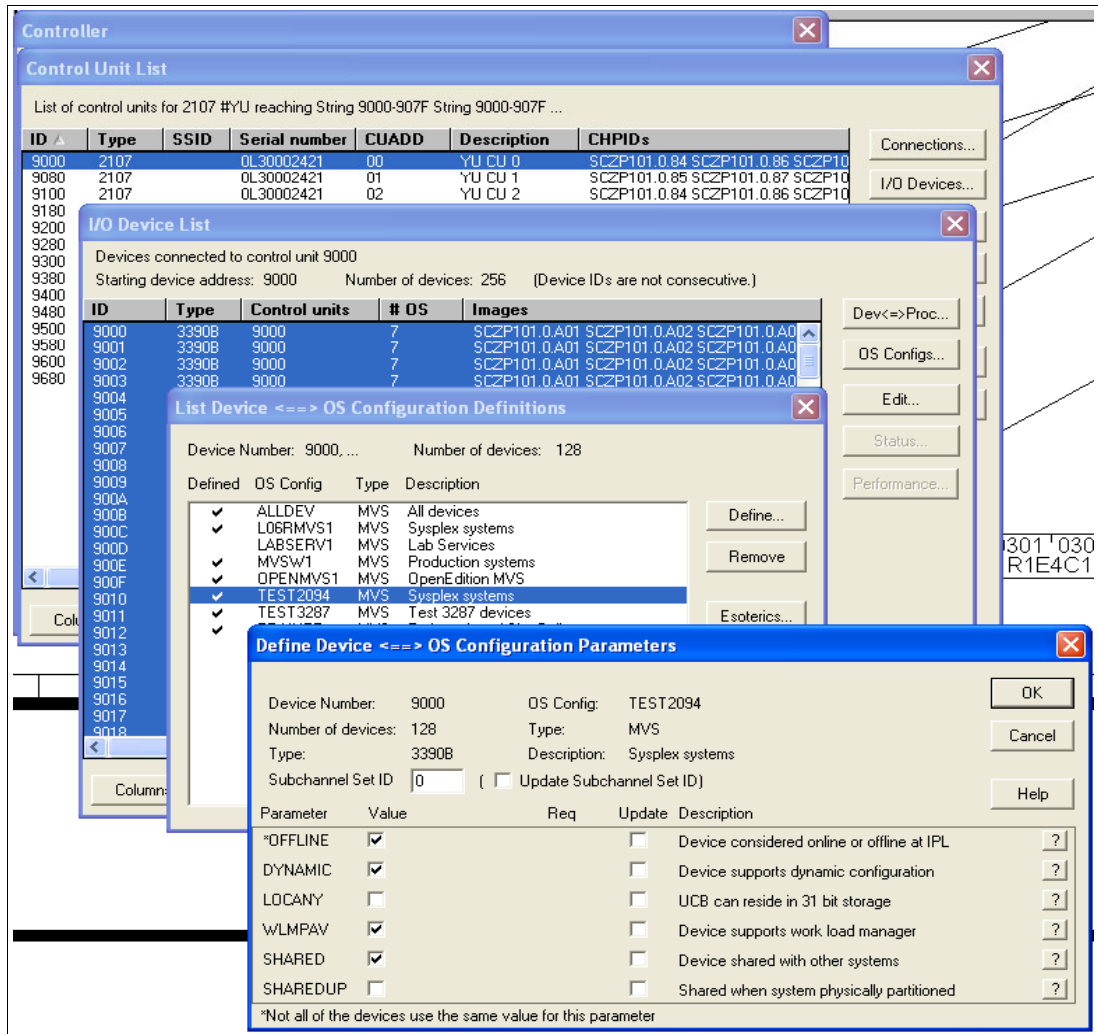

Figure 7-26 HCM OS Configuration Parameters
37. Highlight TEST2094, and then click **Define**. Refer to Figure 7-26 on page 218.